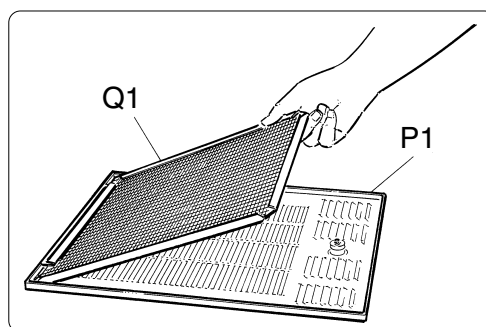

Fig. 42
- Remove the filter (Q1) from the panel (P1), then wash it well, making sure all the dust has been removed from the filter (fig. 42).